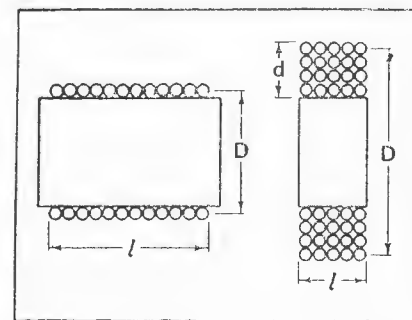

Figure 2.
(2) represents the formula (2) given above, with the value of "D" changed as noted below.
The second half of the formula is the corrective term mentioned above. The constants are similar to those employed in formula (2), the only difference being that "D" is now the external diameter of the coil in inches. The additional constant "d" is the winding depth of the coil in inches. For purposes of clarity, a diagram is presented in Fig. 2 which illustrates the dimensions of the coils for purposes of formulae (2) and (3).